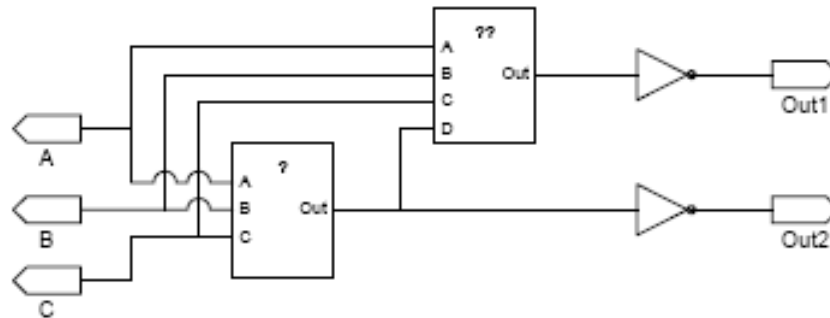
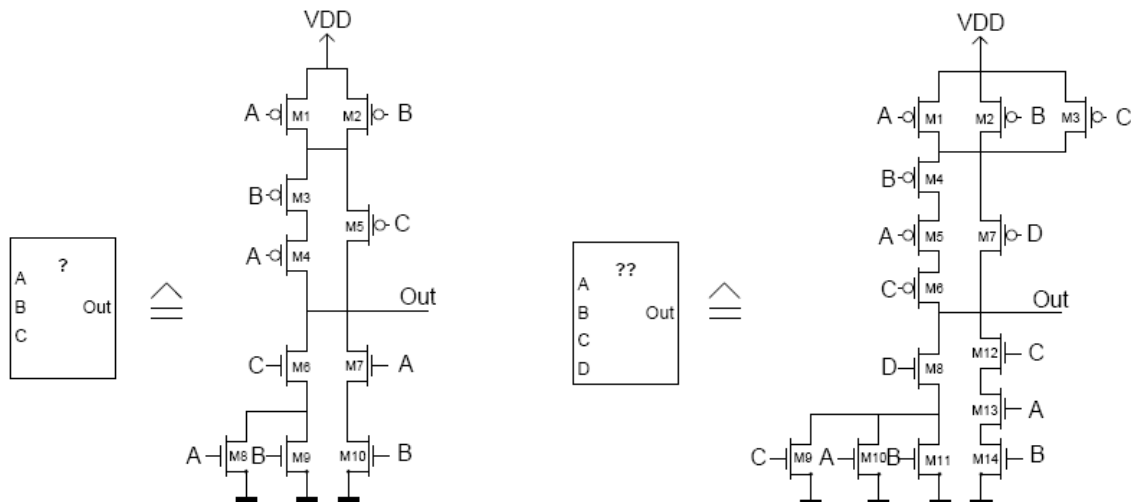

Figure 1: Block diagram of unknown logic circuit
Figure 2: Transistor level schematic of logic gates in circuit of Figure 1.
Figure 1 shows the block diagram of a digital circuit with two standard inverters and two complex logic gates. The details of the two complex logic gates are shown in Figure 2.
- 2) Size all the transistors in Figure 2, such that the gates “?” and “??” have a worst case pull-up and pull-down performance approximately equal to a unit sized inverter. When doing so try to minimize the maximum input capacitance seen at any input. Assume long channel devices, use integer ratios when scaling the devices and neglect body effect.